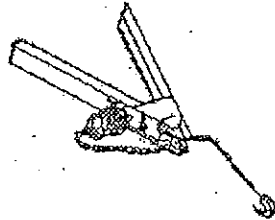

FIGURE 1
1. Mount chain on hitch channel by running chain through loop and running hook through the large ring at end of chain and pull tight as shown in Figure 1.